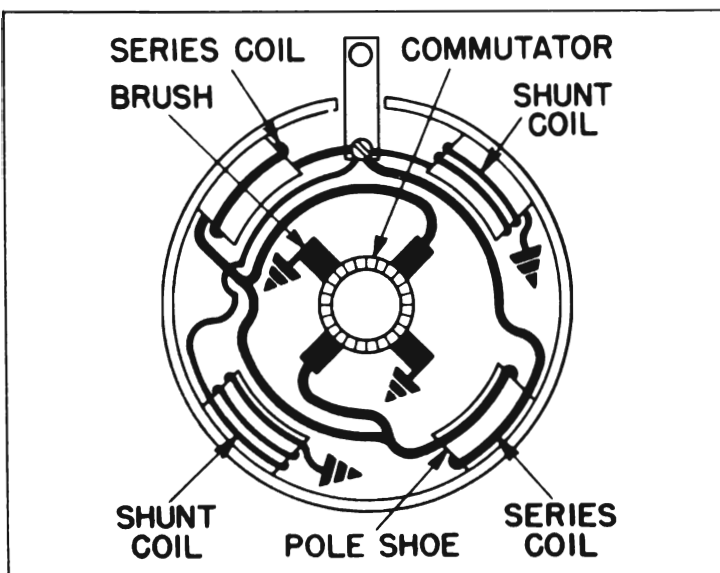

Figure 10-28—Cranking Motor Circuits (401 Cu. In. Engine)
The cranking motor for the 401 engine has two parallel field coils connected to the insulated brushes, and two shunt field coils connected to ground. The purpose of this design is to increase starting torque for the larger 401 engine. Heavier field and armature windings help accomplish this. The additional shunt field is required to control free speed of the motor. See figure 10-28.
6. Remove two screws holding solenoid to drive housing and remove solenoid. Remove small nut and insulating washer from the solenoid "S" terminal. Remove large nut and insulating washer from the solenoid battery terminal. See figure 10-28. Then remove two screws that attach switch cover to solenoid